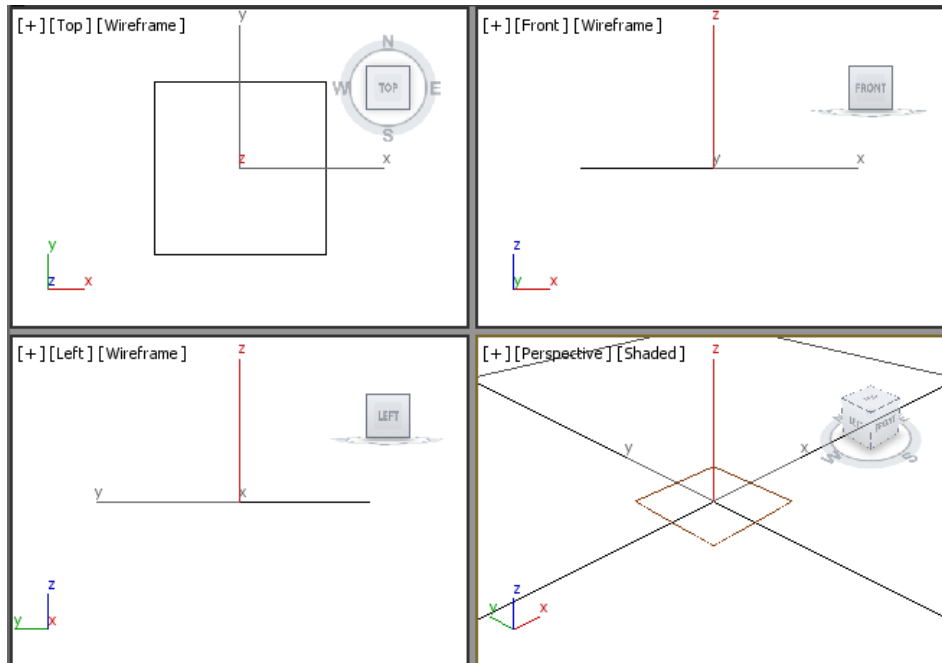

Figure 5-23 The base zoomed in all viewports
- Enter **base** in the **Name and Color** rollout. Invoke the **Zoom Extents All** tool; *base* is zoomed in all viewports, as shown in Figure 5-23.